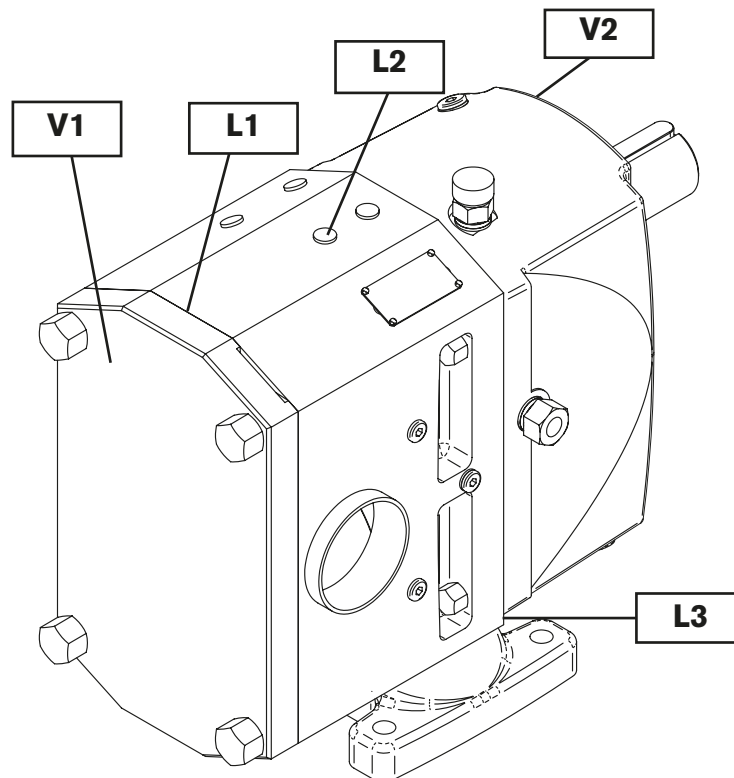

Fig 1 – Indication of monitoring possibilities and advised locations (optionally)
Surface temperature monitoring is always of extreme importance in the following areas, see figure 1:
- Monitoring of the surface temperatures of the pump casing at indicated areas (see figure 1) and controlling or monitoring the quench or flushing medium for the shaft seal normally ensures sufficient protection against potentially dangerous situations.